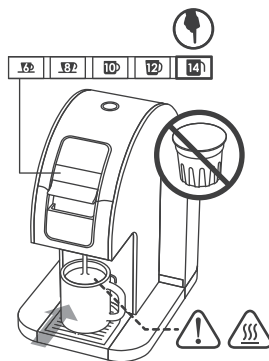
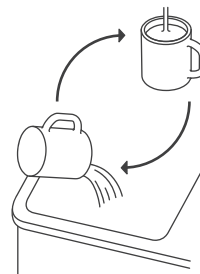

Fig. 33
Fig. 34
2. Place a large mug on the Drip Tray and press the 14 oz button without a Pod. (Fig. 33) Throw away the heated water into the sink. (Fig. 34)